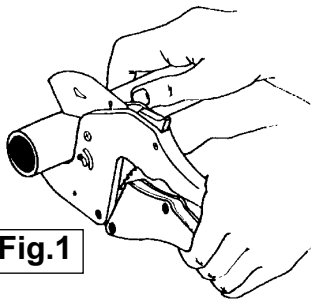

Fig.1
- 3.1.1. Place the plastic pipe into the 'L' jaw with the blade point aligned with the tube centre. (See fig.1)